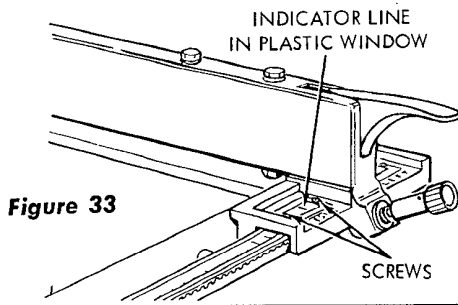

Figure 33
- (b) If an adjustment is required, loosen the two screws (one at each end of the window) and shift the plastic window until the indicator line is aligned with the "1" inch line on the scale. (See figure 33.) Tighten the two screws and recheck for accuracy. If the plastic window cannot be shifted enough to provide this alignment, loosen the screws that secure the guide-bar scale to the guide-bar at its ends, shift the scale slightly and tighten the screws. Then proceed to adjust the plastic window as described above.